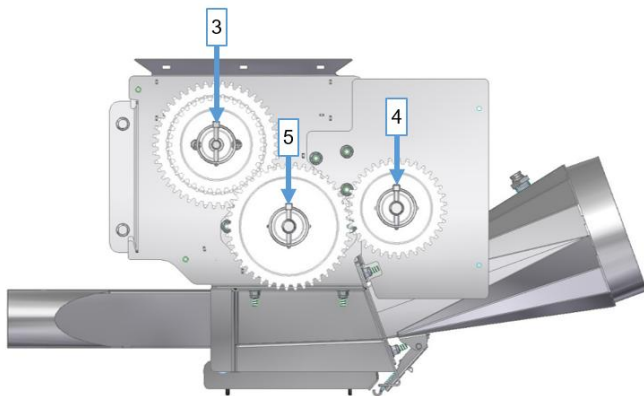

Figure 34
The gear ratio of the seeding shaft drive can optionally be changed. Upon delivery from the factory (see Figure 34), one gear wheel [5] (number of teeth = 35) is installed on the motor and one gear wheel [4] (number of teeth = 45) is installed for the seeding shaft, with a gear ratio (i) = 0.78. In this mode, the seeding shaft reaches a max. speed of approx. 80 rpm. If this speed is not sufficient, the gear wheels can be changed with the following procedure:
- First take off the 2 individual gear wheels (motor [5] and seeding shaft [4]). Then take off the double gear wheel for the agitator [3] (see Figure 34).